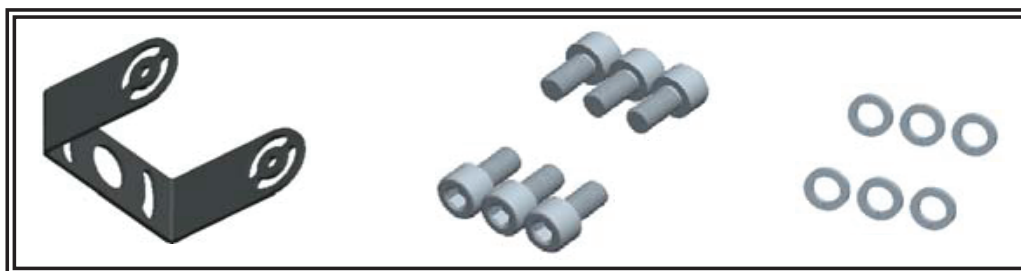

Figure 1
6. Loosen the hex head screws and adjust the camera's position to get the best view angle in the monitor as shown in Figure 1.